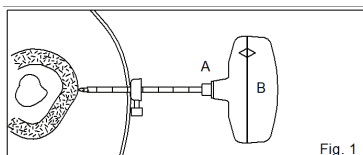

Fig. 1
**FIG. 1** Depending on the depth of the bone being accessed, adjust the depth gauge on the Cutting Cannula (A) to the appropriate centimeter marker and tighten to provide a visual guide. Introduce by rotating counterclockwise the assembled Cutting Cannula and Stylet with Trocar Tip (A+B) until engaged with the bone surface.